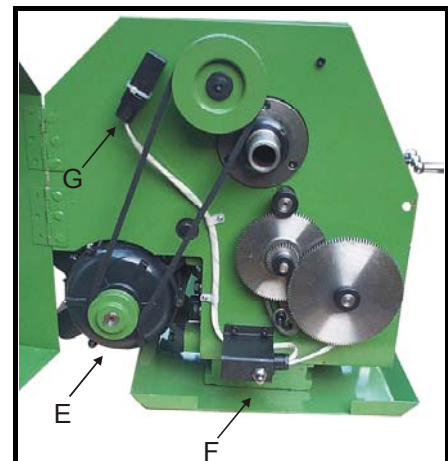

Fig. 11
1. **Motor** (E, Fig.11) - is rated at 3/4HP, 1PH, 240V, 50HZ, only. Confirm power available at the lathe's location is the same rating as the lathe. We can meet special specification according to the voltage in customer's country.
3. **Chuck Safety Cover** (D, Fig. 10) – mounted on a pivot bar on the rear top front face of the headstock. It can be tipped out of the way to access the chuck when it is stationary and repositioned over the chuck during operation. When it opened, the power will be disconnected by the micro-switch (G, Fig. 11).
4. **Change Gear Safety Cover** (C, Fig. 10) – When you open the cover to change the gear or repair the lathe. It will stop by the micro-switch (F, Fig. 11).